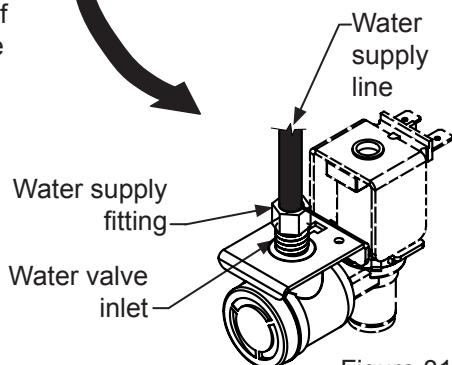
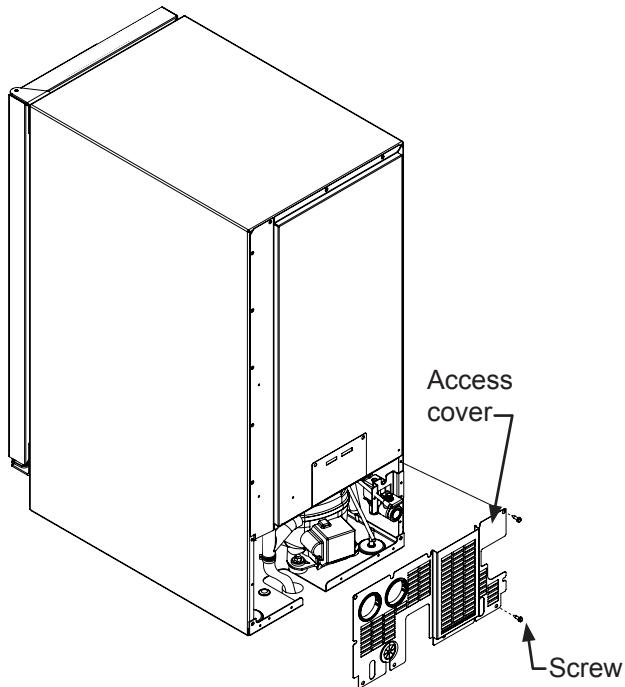

Figure 31a
Figure 32
2. Disconnect the water supply fitting at the inlet of the water valve. (See Figure 31a).
3. Change the electronic control to the "CLEAN" position for approximately one (1) minute. This will energize and open the water valve and remove most of the water from the water valve and the water valve's outlet water line to the reservoir.
6. Remove the access cover from the rear of the ice machine. (See Figure 32).